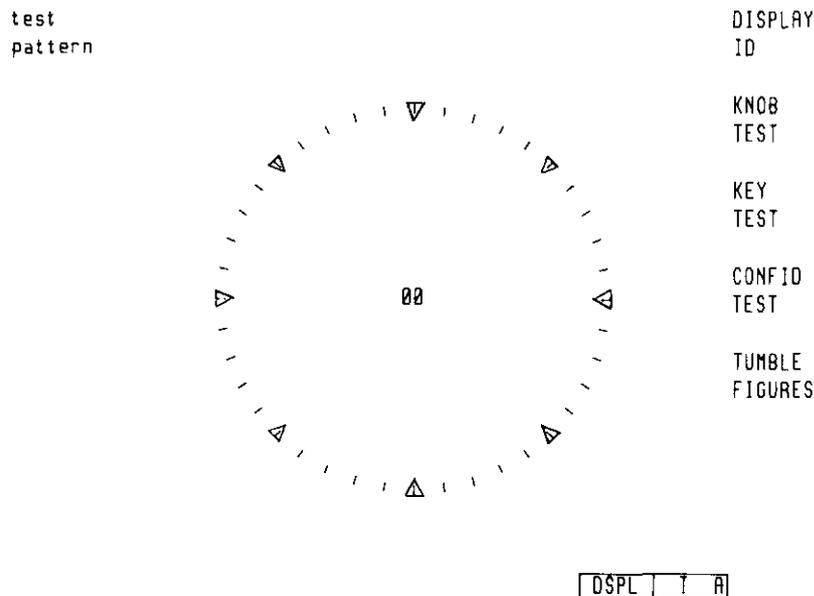

Figure 5-6. Knob Test Display
4. Slowly turn the front-panel RPG knob clockwise (CW). As the knob is rotated, the counter at the center of the knob-test display should increase by single units from 00 to 39, then begin at 00 again. See Figure 5-6.
5. Slowly turn the front-panel RPG knob counterclockwise (CCW). As the knob is rotated, the counter at the center of the knob-test display on the CRT should decrease by single units. See Figure 5-6.